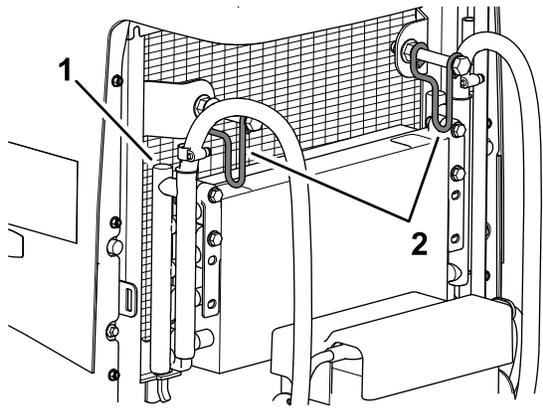

Figure 111
7. Rotate the 2 oil-cooler latches inward, and tilt oil cooler (Figure 111).